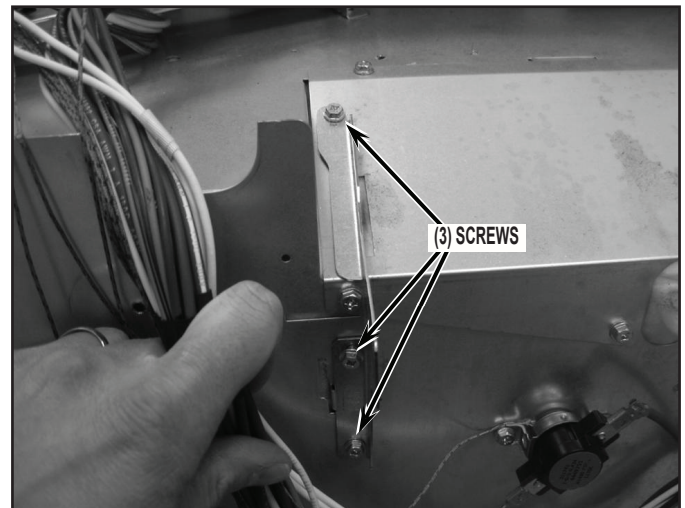

FIGURE 4
6. Remove blower brackets from unit. This will require a wrench to reach screws between cavities on double wall ovens. See *Figure 4*.